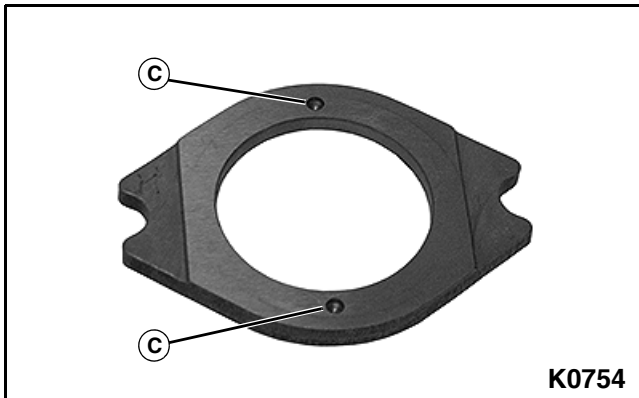

Figure 3-180
Thrust plate must be installed facing proper direction. Dimples must face front of engine (C). See Figure 3-180.